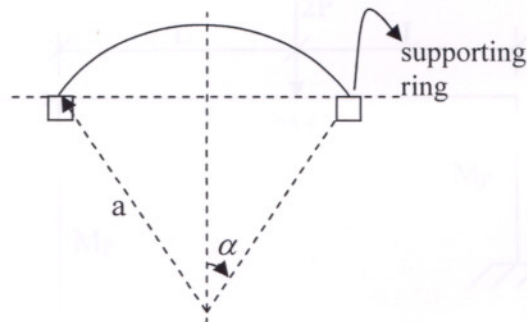

Fig. Q-5
5. A spherical dome of radius a , as in Fig. Q-5, is acted upon by its own weight q per unit area. Derive the expressions for meridional force N_ϕ and hoop force N_θ . Are these tensile or compressive? What is the function of the supporting ring at the base?